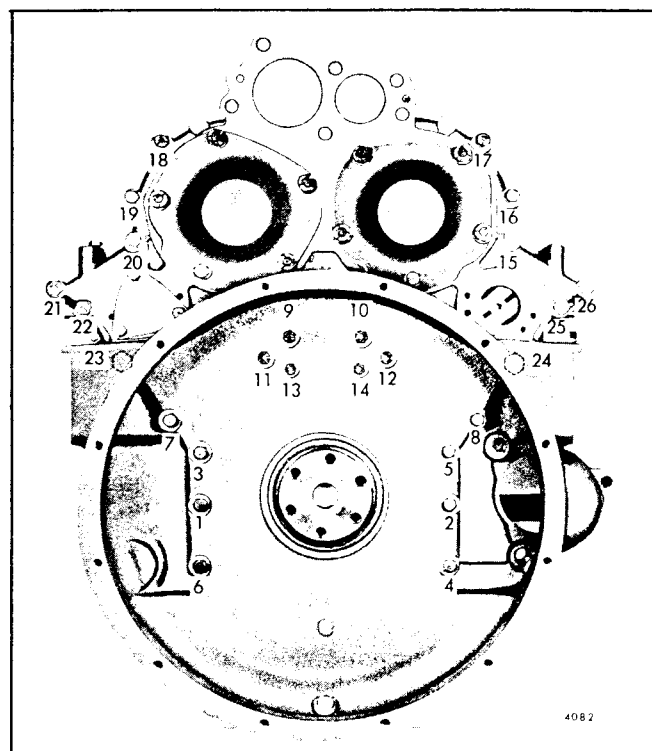

Fig. 7 - Flywheel Housing Bolt Tightening Sequence (Operation 2)--6V Engine
10. Refer to Fig. 7 or 8 for the final bolt tightening sequence for V engines; then, start at No. 1 and tighten the bolts to the specified torque. Tighten the 5/16"-18 bolts (numbers 13 and 14) to 19-23 lb-ft torque and the 3/8"-16 bolts (numbers 9 through 12) to 40-45 lb-ft torque. Tighten the remaining 3/8"-16 and 3/8"-24 bolts to 25-30 lb-ft torque.